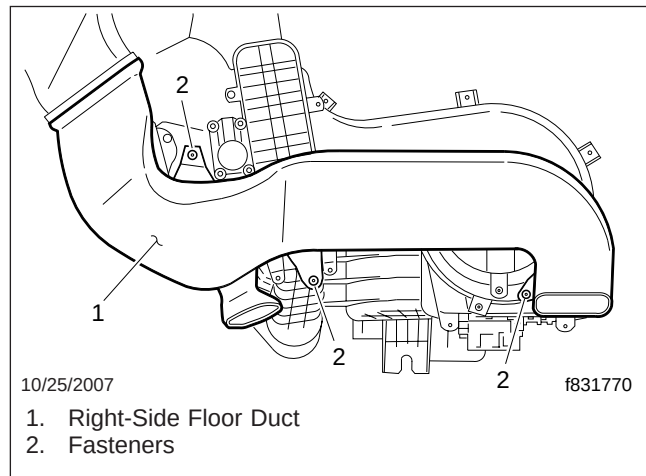

Fig. 4, Right-Side Floor Duct Removal
5. Remove the right-side floor duct. See Fig. 4.